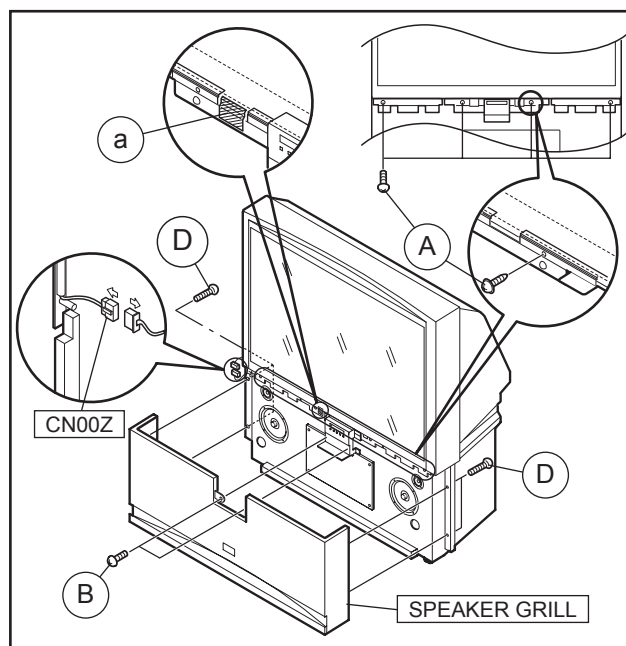

Fig.2
- (2) Remove the 2 screws [**B**] inside of the front door. [Fig.2]
- (3) Remove the 2 screws [**D**] on the left edge of the rear cover, and remove the 2 screws [**D**] on the right edge of the rear cover. [Fig.2]
- (4) Pull the speaker grill in front direction, and remove the speaker grill. [Fig.2]
- (5) Remove the connector [**CN00Z**] for the auto-convergence sensor on the left side of the set, and the clamp fixing the wire. [Fig.2]
- (6) Remove the 2 screws [**A**] on the left front panel bracket, and remove the 2 screws [**A**] on the right front panel bracket. [Fig.2]
- VOID seal [**a**] attached to the left front panel bracket in order to confirm that a person except JVC installation workers has disassembled the set. This seal is removed when the upper unit is removed, and the letters of "VOID" appears in the place where the seal. [Fig.2]
- (1) Lift the upper unit slowly, and then place the upper unit on the lower unit.
- (2) Adjust the front side of the upper unit to the brackets on the lower unit for attaching the upper unit.
- (3) Attach 2 screws [**A**] to the both side of the rear cover. [Fig.2]
- (4) Attach 2 screws [**A**] to the both edge of the rear cover. [Fig.2]
- (5) Attach the 4 screws [**A**] to the front panel bracket. [Fig.2]
- (7) Attach the speaker grill to the front side.
- (8) Attach 4 screws [**D**] to the both edge of the rear cover. [Fig.2]
- (9) Attach the 2 screws [**B**] to the front door. [Fig.2]
- (10) Attach the connector for the auto-convergence sensor.